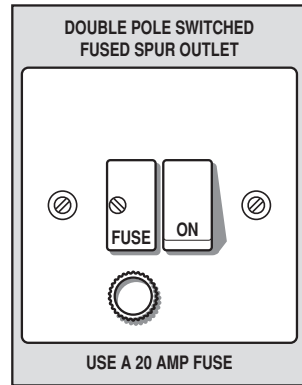
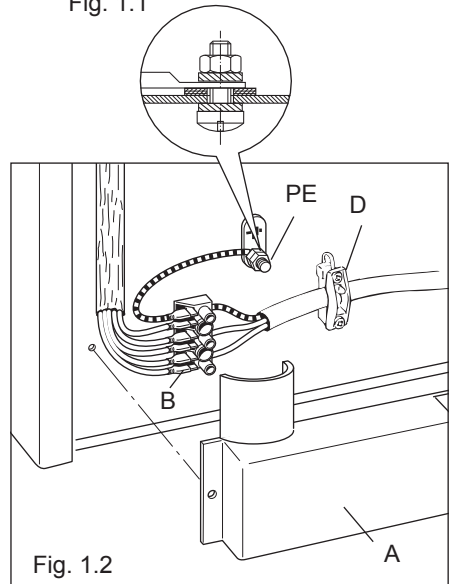

Fig. 1.1
Fig. 1.2
This appliance must be connected to a double pole isolating switch (fig. 1.1) and to the terminal block in the cooker (figs. 1.2, & 1.3) using the following guide:
- Remove the screw that hold shield “**A**” behind the cooker (fig. 1.2).